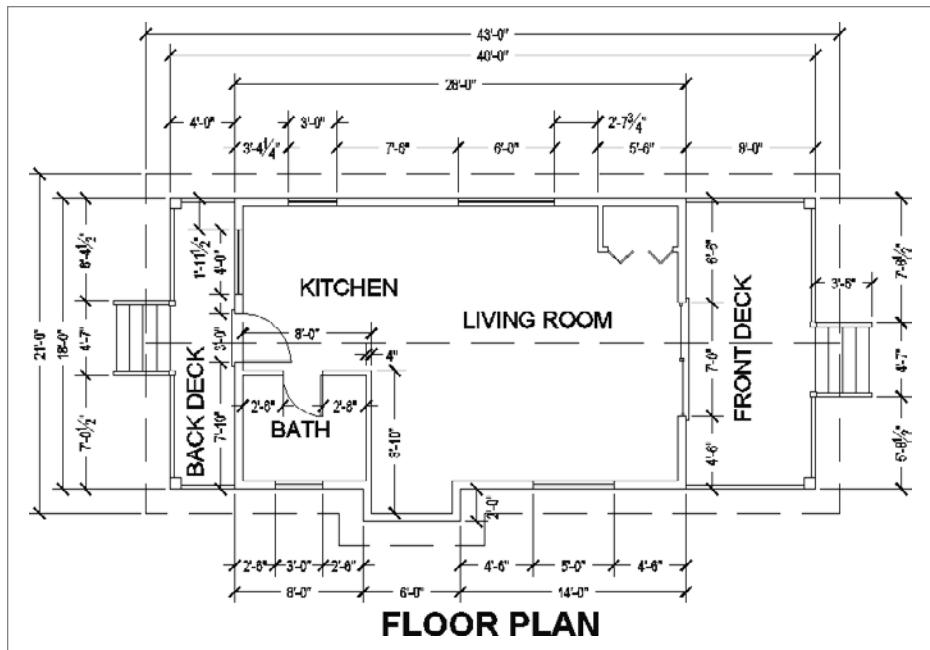

FIGURE 12.31 The completed dimensions
- The completed dimensions will be similar to Figure 12.31.